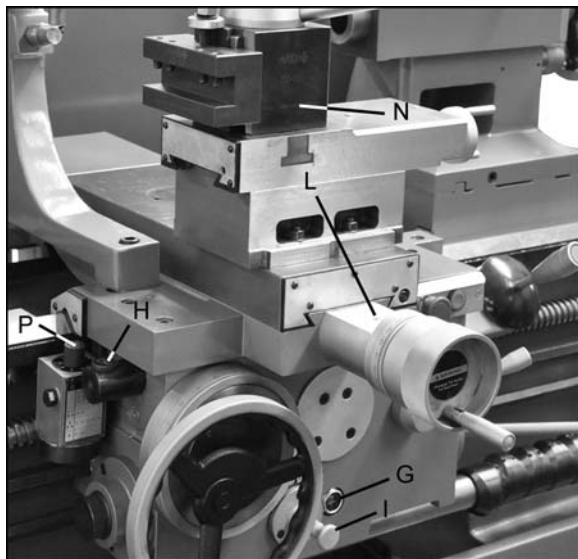
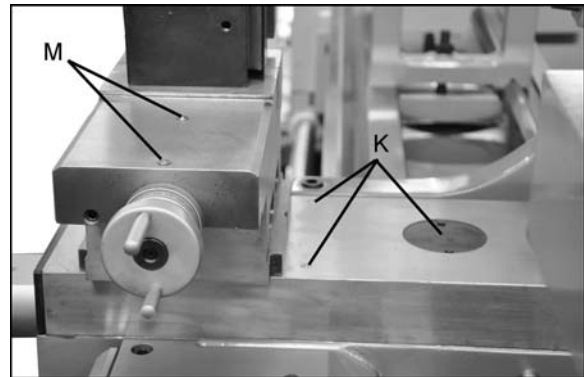

Figure 11 – Lubrication points
Figure 12 – Lubrication points
6. **Apron** – Oil must be between indicator marks in the oil sight glass (G, Figure 11). Top off with SAE 20W oil. Unscrew oil plug (H, Figure 11) to fill. To drain, remove drain plug on the underside of apron. Drain oil completely and refill after the first three months of operation. Then, change oil in the apron annually.
7. **One-shot Lube System**: Pull knob (I, Figure 11) and hold for several seconds to allow oil to fill the pump from the apron reservoir. Then release the knob which will push the oil
8. **Threading Dial** – Frequently lubricate via one ball oiler (P, Figure 11) on top of the dial with SAE 20W oil.
9. **Cross Slide** – Daily lubricate one ball oiler on the handwheel housing (L, Figure 11) and three ball oilers on the platform (K, Figure 12), with SAE 20W oil.
11. **Compound Rest** – Daily lubricate two ball oilers (M, Figure 12) on top of compound rest with SAE 20W oil.
12. **Tool Post** – Regularly clean dirt and coolant from around the tool post to maintain its re-positioning accuracy (N, Figure 11).